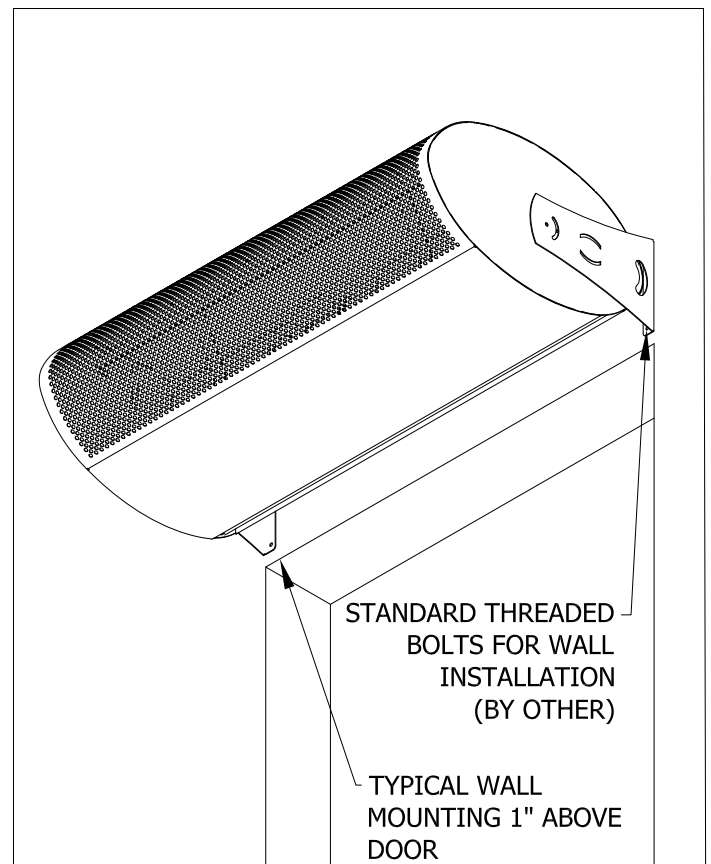

FIG. 1
4. Wall mounting brackets with (3) ¼" mounting holes on each bracket are provided for your convenience. These holes must be utilized to secure the product to the wall or ceiling. For ceiling mount, rotate the wall mounting bracket 90° to point upwards. Threaded rods to be bolted to these ¼" holes. All hardware is field provided by others.
5. Mount the product such that the discharge is 1" above the opening and all obstacles. (FIG. 1)
6. Use four (4) threaded rods for overhead installation or four (6) threaded bolts for wall installation. All hardware is field provided by others. (FIG. 1)